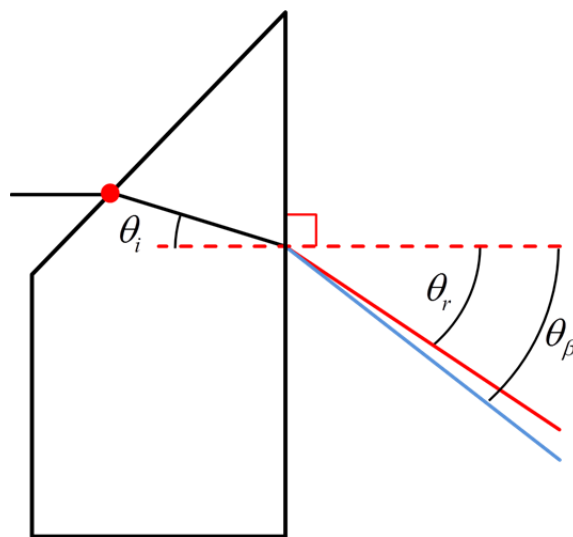

Figure 7: Dispersion Angles
1. Use the protractor to measure the incident angle at the dispersion interface θ_i , as well as the dispersion angles θ_r for red light and θ_β for blue light as seen in Figure 7. Record all angles in degrees.